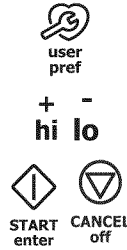

Figure 14: F or C selection
1. Press **user pref** key until **F-C F** appears in display (Figure 14).